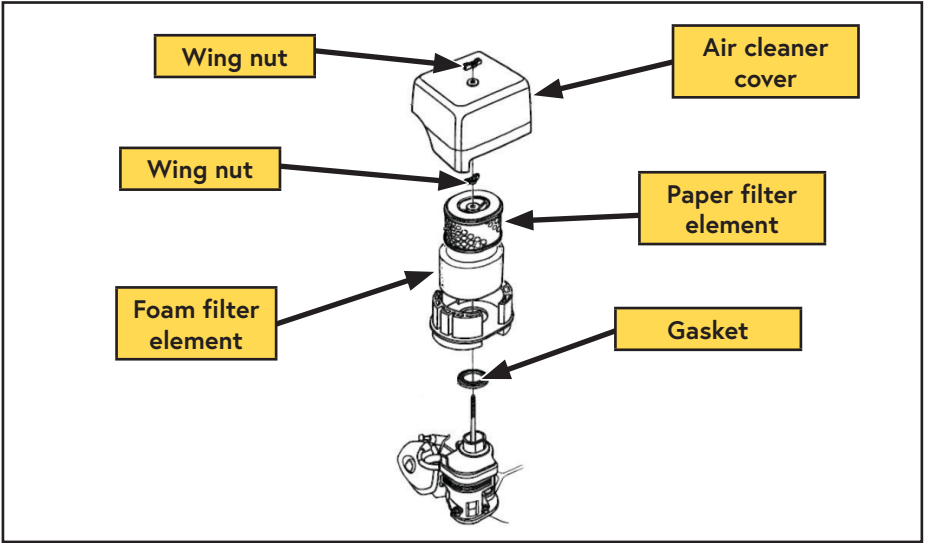

Figure 39 — Replacing the dual element air filter
- Remove the wing nut from the air cleaner cover, and remove the cover (Figure 39).